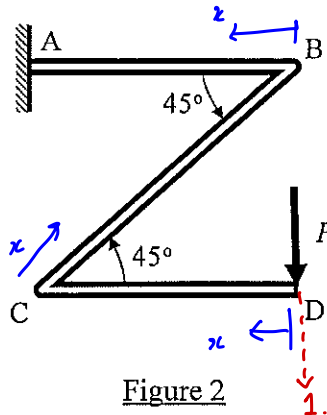

Figure 2
- (b) Figure 2 shows a "Z" shaped beam ABCD of with segments AB and CD having the same length L , and segment BC having a length $\sqrt{2}L$. All the three segments have the same flexural rigidity EI . The beam is fixed to a rigid wall at A and carries a vertical load P at D. Consider only bending effects. Assume linear elastic behavior of the structure.